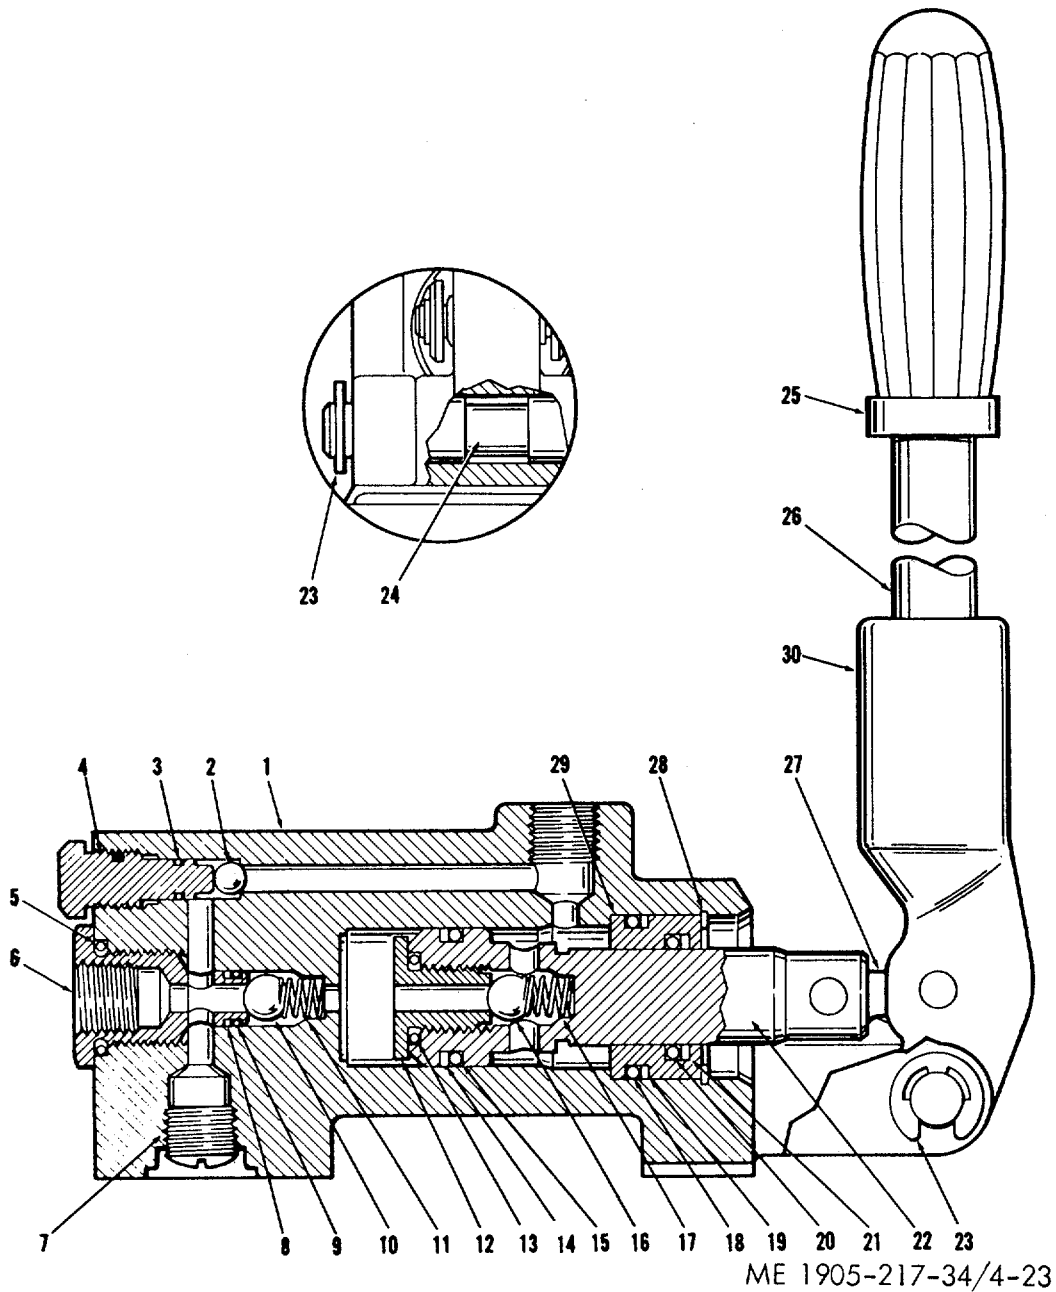

Figure 4-23. Hand pump, cross-section view.
- (1) Clean all parts with solvent, (FED. SPEC. PD-680) and dry thoroughly.
- (2) Pump housing.
- (b) It is not necessary to remove plug (7, figure 4-23) unless there has been leakage at threads.
- (c) Check bleed ball valve (2) and its seat in the housing. Replace ball valve if damaged.
- (d) Replace gasket (3).
- (3) Inlet fitting (6).
- (b) Replace gaskets (5 and 9) and backup ring (8).
- (c) Inspect inlet check valve ball (10) and spring (11). Replace if damaged.
- (4) Plunger (22). Check plunger for scoring on large diameter and on plunger shank where it rides in gland (29). A wear pattern may be evident but no scores or scratches should be present. Replace gaskets (13 and 15) and backup ring (14). Examine discharge check valve (16), spring (17), and check valve seat (12). Replace any damaged parts.
- (5) Plunger gland (29). With gasket (20) and backup ring (21) removed, check gland on plunger shank to be sure it does not bind. Replace gaskets to be sure it does not bind. Replace gaskets (18 and 20) and backup rings (19 and 21).
- (1) Install inlet check valve spring (11, fig. 4-23) and ball (10) into housing (1). With gaskets (5 and 9) and backup ring (8) on inlet fitting (6), install fitting into housing. Tighten fitting securely being sure that inlet check valve (10) seats properly in end of inlet fitting (6).
- (2) Install discharge check valve spring (17) and ball (16) into plunger (22). With gasket (13) in place, thread valve seat (12) into plunger and tighten securely.
- (3) Insert plunger (22) into housing bottoming plunger bore. Install plunger gland (29) being sure that external gasket (18) is closest to leading edge. Press gland (29) in until groove for retaining ring is uncovered, then insert ring (28).
- (4) Drop bleed ball valve (2) into place and with gasket (3) in position insert bleed screw (4). Tighten bleed screw securely.
- (5) Install link assembly (27) to plunger (22) and operating lever (30). Place operating lever (30) in position and insert clevis pin (24) and retaining ring (23). Put other side of link on and secure with clip or cotter pin.